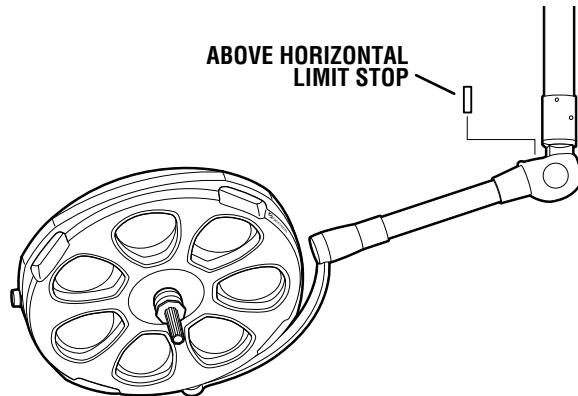

Figure 8. Above Horizontal Limit Stops
d. Pull the lighthead down and remove the Above Horizontal Limit Stops from the BOM. See figure 8.